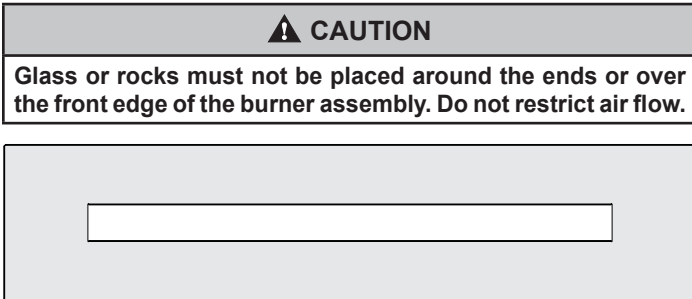

Figure 51
8. Apply the accessory decorative glass or rocks to the shaded area only. **See Figure 51.** Use enough to cover the area of the fireplace, but do not allow the media to reach higher than the flange surrounding the burner. Never place decorative media inside the flange surrounding the burner itself. This fireplace can use crushed glass, glass droplets (1/2 inch) or glass drops (1 inch), or ceramic fiber rocks and pebbles. Mix colors and glass types, but do not exceed the recommended amount of decorative media.